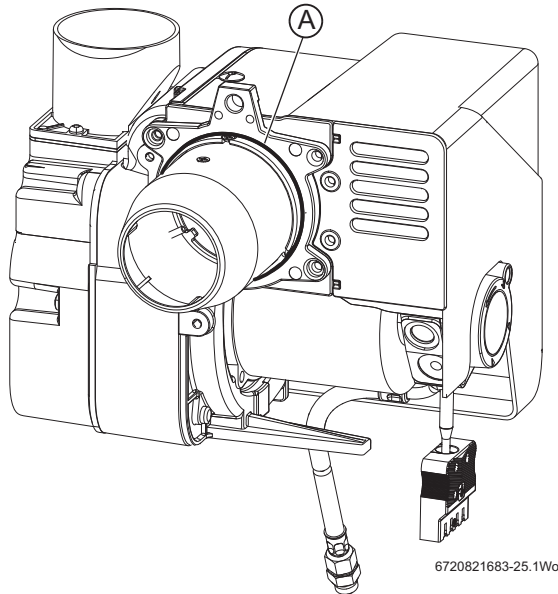

Fig. 66 18/25 and 25/32 Burner O-ring seal shown
- ▶ Always check that the O-ring seal (Fig 66 item A) is in good condition before fitting the burner. Replace the O-ring seal if defective.